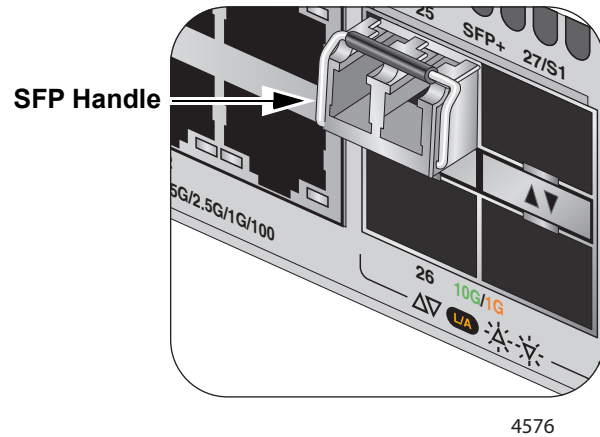

Figure 62. Positioning the SFP or SFP+ Handle in the Up Position
5. Verify the position of the handle on the transceiver. If the transceiver is in a top port, the handle must be in the up position, as shown in Figure 62. If the transceiver is in a bottom port, the handle must be in the down position.